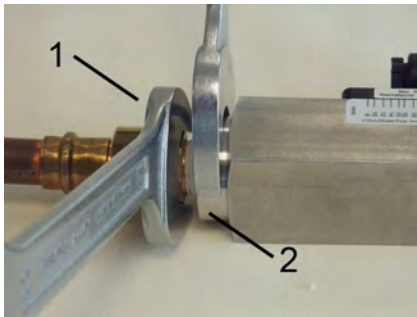

Fig. 12: Screw in the device
3. ▶ Keep turning in the adapter union (Fig. 12/1) while holding the process connection of the device locked (Fig. 12/2) until the connection is tight.